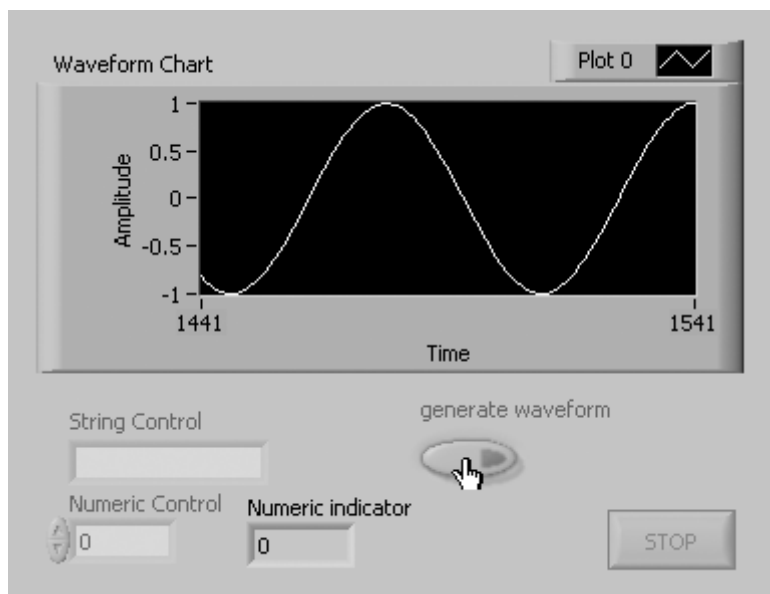

Figure 15.55
1. Create **Disable Controls While Busy.vi**, as shown in Figures 15.55 and 15.56.